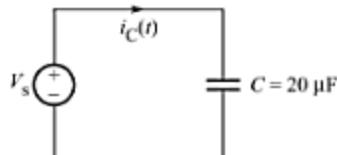

Fig. E-14
- E-7. Figure E-14 shows a 20- μ F capacitor that has a voltage $v_s(t) = 0$ V, $t < 0$; $v_s(t) = 10^{4t^2}$ V, $0 < t < 0.1$ s; $v_s(t) = 100$ V, $t > 0.1$ s. (a) Find the